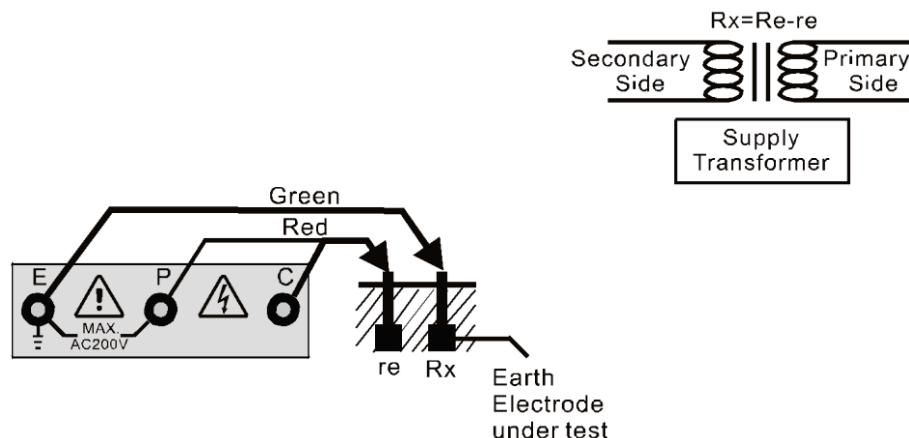

Fig. 2
- (1) This method is recommended where an earth resistance higher than 10W is measured or where it is not possible to drive auxiliary earth spikes. An approximate value of earth resistance can be obtained by the two-wire system as shown in Fig. 2.
- (2) Rotate the function switch to the "EARTH VOLTAGE" position and press to test. Make certain that earth voltage is less than 10V.
- (3) First rotate the function switch to "200W" position and press to test. Read earth resistance. If the display shows "1" (MSD), switch to "2000W" position and read earth resistance.
- (4) The reading obtained (R_x) is an approximate earth resistance value. There is no need for external shorting since P and C terminals are shorted by using